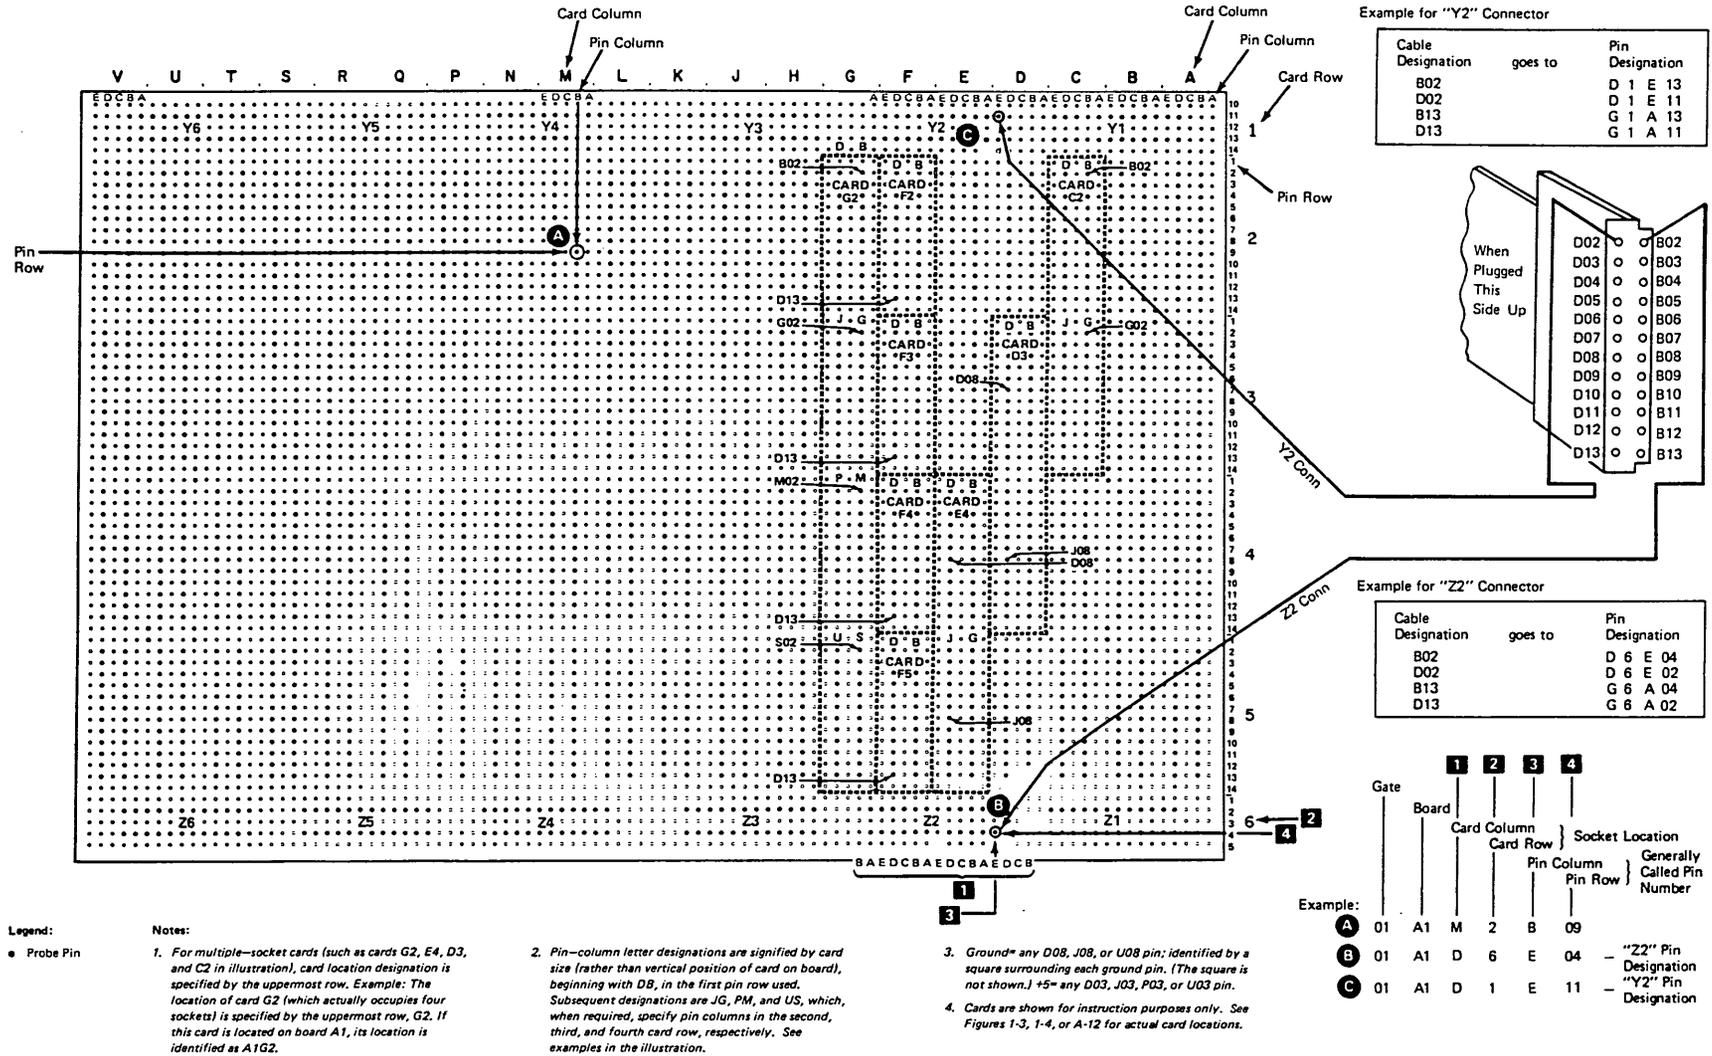

Figure A-1. Logic Board—Card, Connector, and Pin Locations
- Figure A-1. Logic Board – Card, Connector, and Pin Locations A-2